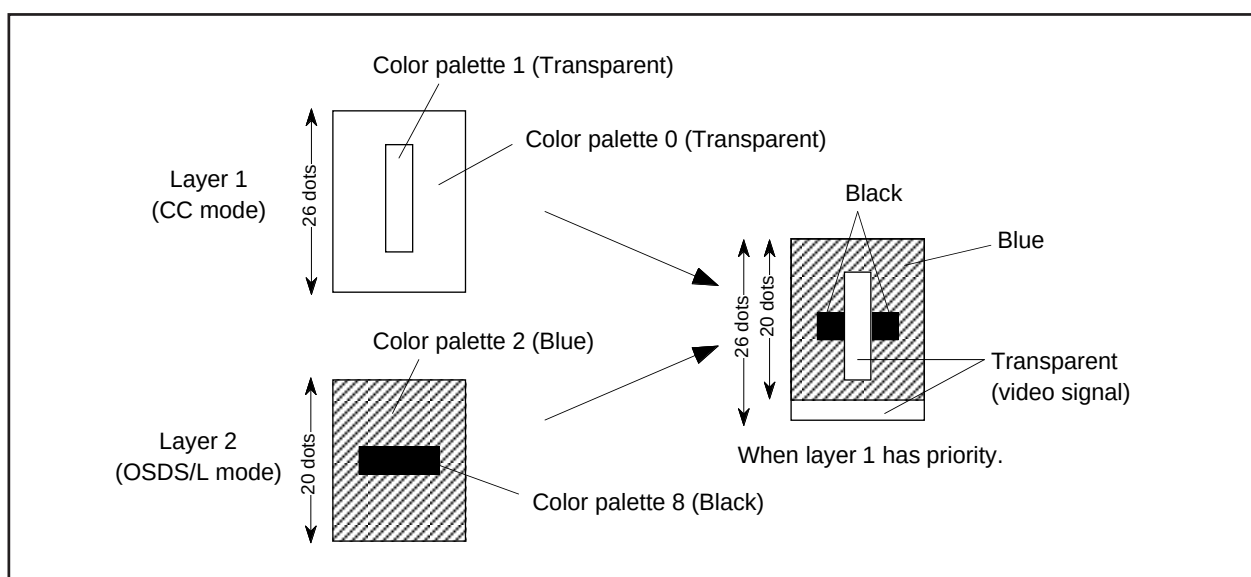

Figure 2.16.28 Difference between color palette 0 (transparent) and transparent setting of other color palettes
Only in CDOSD mode, a dot which selects color palette 0 or 8 is colored to the color palette set by RC13 to RC16 of OSD RAM in character units (refer to Figure 2.16.28).
**2:** Color palette 0 (transparent) and the transparent setting of other color palettes will differ. When there are multiple layers overlapping (on top of each other, piled up), and the priority layer is color palette 0 (transparent), the bottom layer is displayed, but if the priority layer is the transparent setting of any other color palette, the background is displayed without displaying the bottom layer (refer to Figure 2.16.28).